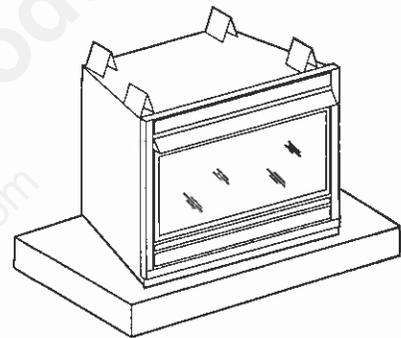

Figure 17
Step 8. Position Heater – Place the heater in desired location. It may be helpful to temporarily assemble the surround around the appliance to properly locate the unit. Refer to Figure 17 for floor and platform installations. If the heater is to be installed into a framed wall refer to the built-in assembly steps beginning on page 4.